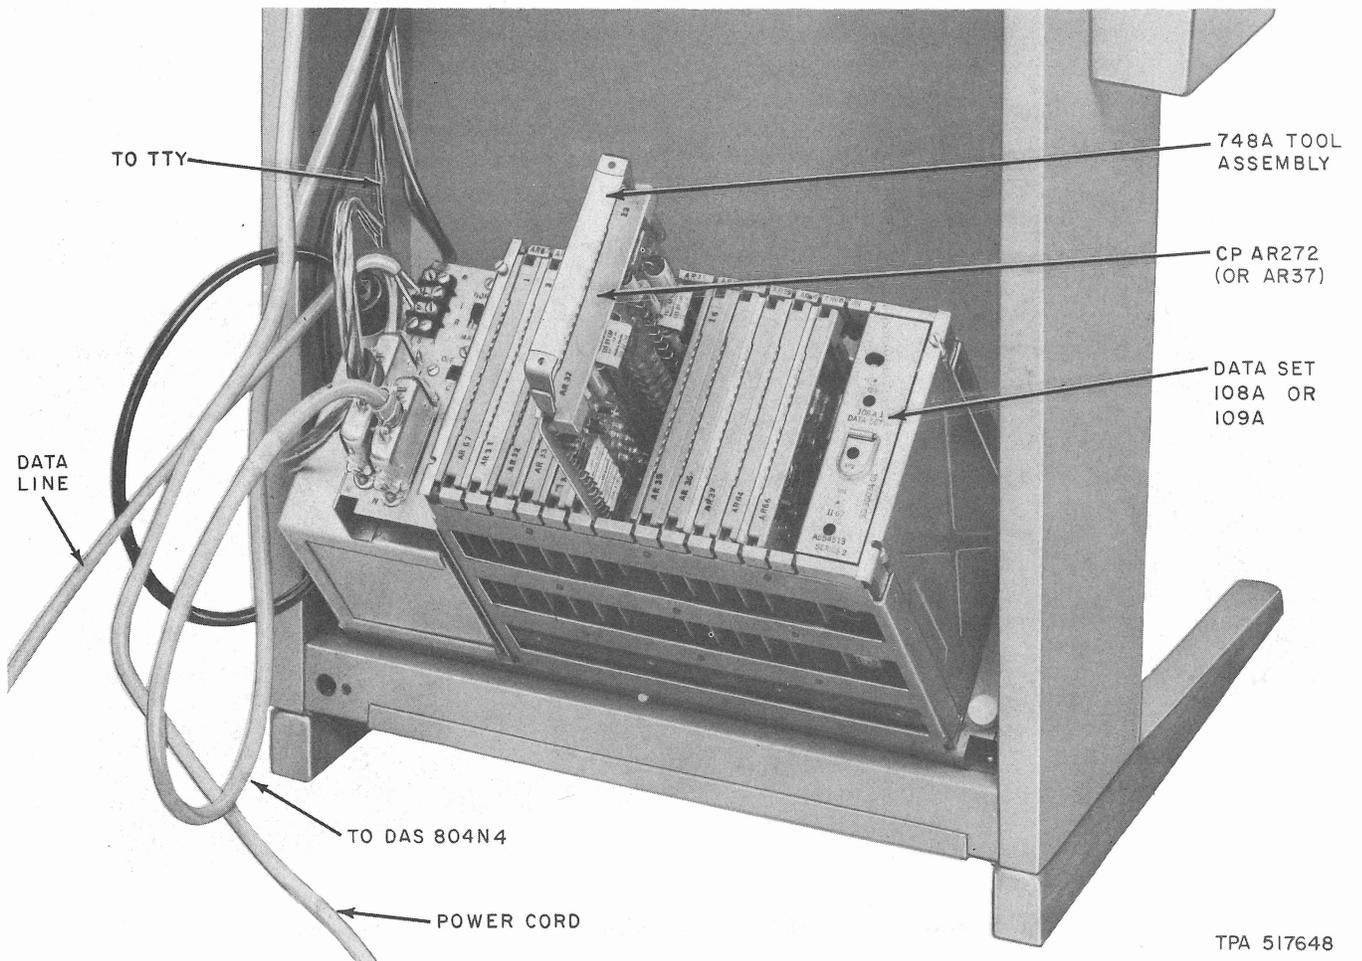

Fig. 4—Mounting Arrangement for DAS 820B-Type in a 33-Type TTY—Maintenance Position
- (2) With both hands placed on the rear of the data auxiliary set, gently pull the top towards the rear of the station as shown in Fig. 4.